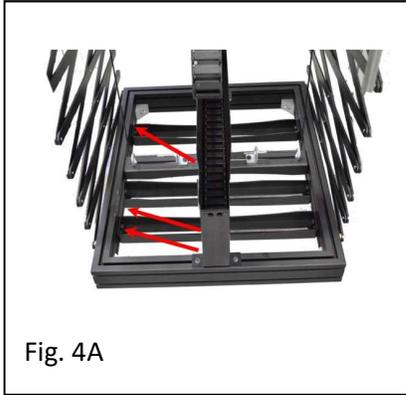
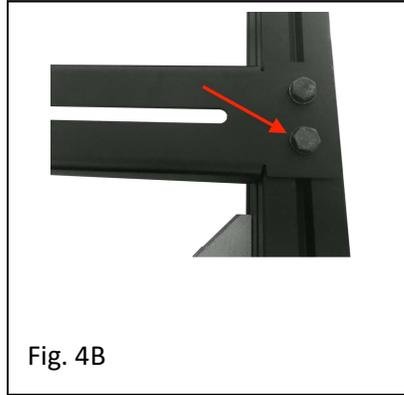
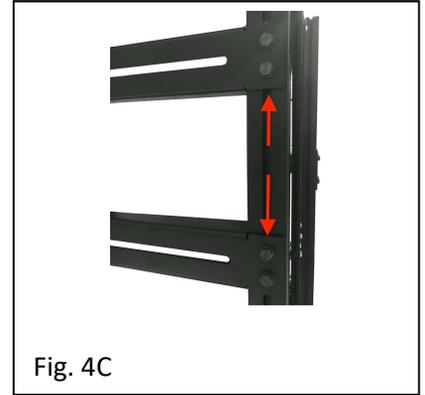
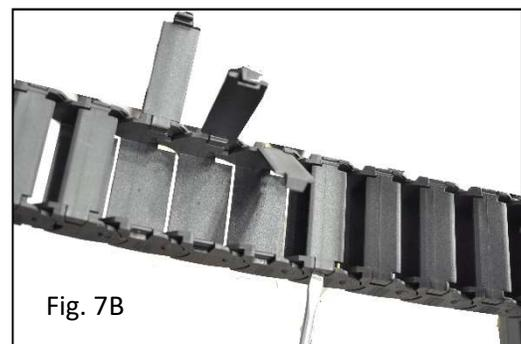

Fig. 4A
Fig. 4B
Fig. 4C
Fig. 7A
- Roll down the PPL 2500 by pushing ▼ button on on the remote control (Fig. 7A) in order to lower the lift till the lower end-stop (SERVICE mode), preset in the factory at 2,5 mt. ca. In case you wish to modify the lower end-stop (SERVICE mode), please refer to instructions at page 8 and 9. In order to fix the projector under the lift, position the splines of the three profiles of the lower lift frame, to match the anchoring points on the projector (Fig. 4A). Unloose the four screws as shown on Fig. 4B and position the three profiles where needed (Fig. 4C). Once you have aligned the splines of the profiles with the anchoring points on the projector tighten the screws and the bolts of the profiles following a cross scheme.